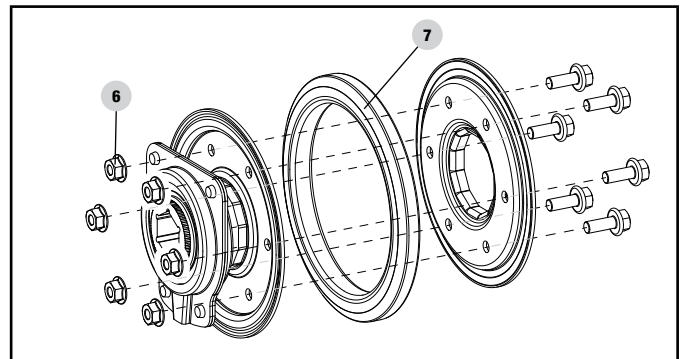

Figure 51
6. Unscrew the six M6 × 16 bolts (6) of the friction disc assembly to discard the worn friction wheel rubber ring (7) and replace with a new one (Fig. 51).